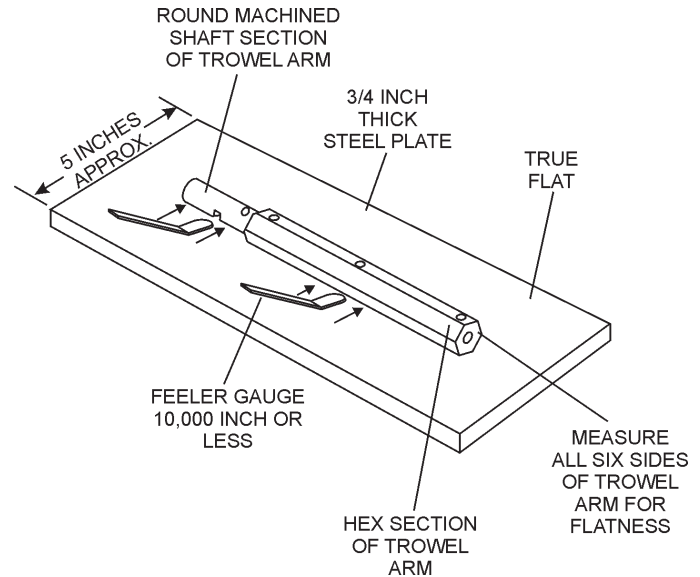

Figure 46. Trowel Arm Flatness Test
2. Check each of the six sides of the trowel arm (hex section only) using a ten thousandths of an inch (max.) feeler gauge (Figure 46) between the flat of the trowel arm and an **extremely flat** test surface.